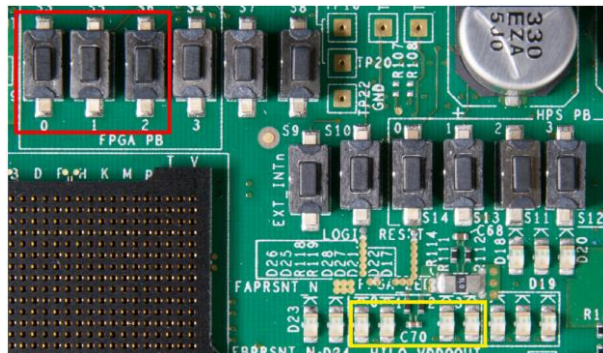

Figure 4-7 BUTTONs and LEDs on A10SoC
8. Observe LED0 and LED1 as shown in **Figure 4-7**. If two LEDs are lit, it means the two channel 12G SDI loopback test passed.